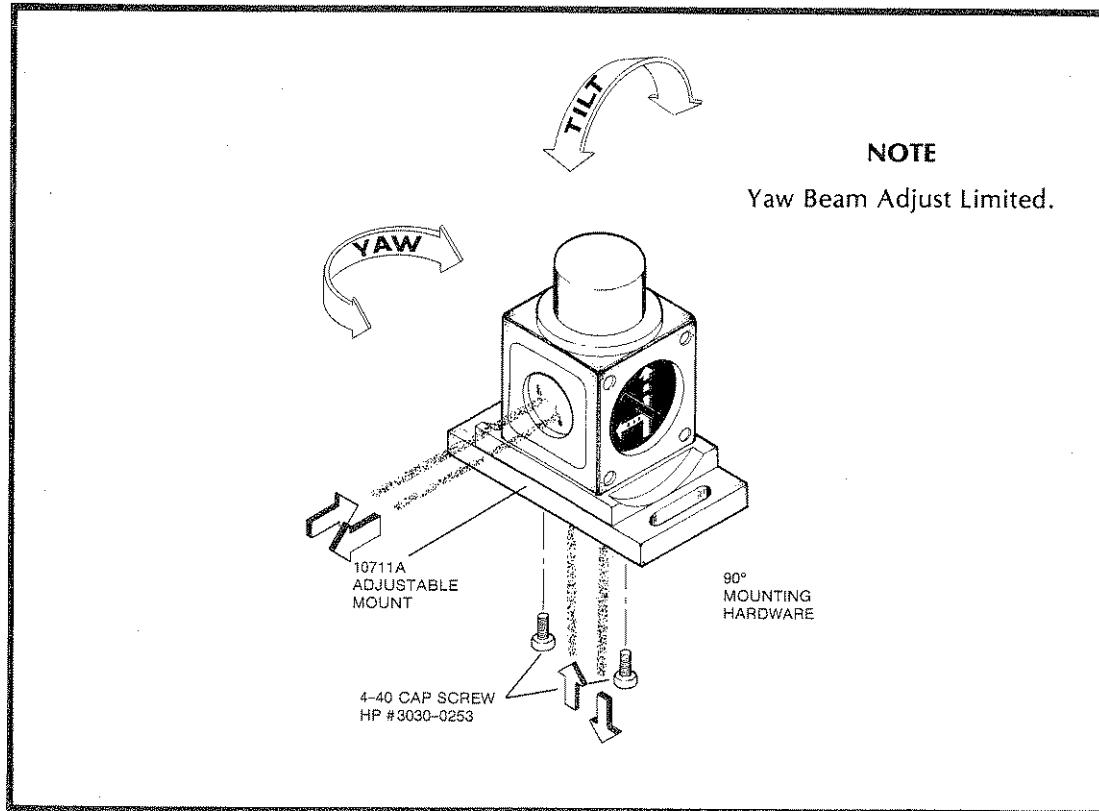

Figure 2-27. Vertical Plane Mounting Using the 10711A Adjustable Mount
- c. *Figure 2-27 shows how to mount the linear or the plane mirror interferometer in the vertical plane using the 10711A Adjustable Mount.*